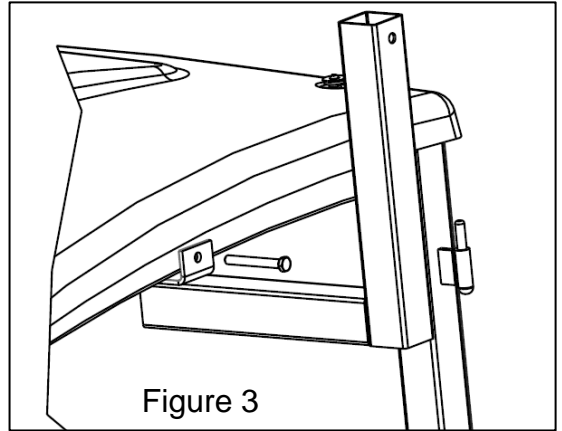

Figure 3
4. Remove (4) socket head screws that secure each seat to vehicle. Lift both seats from vehicle.
11. Remove screws that hold lift valve on center console. (see figure 3)
3. Take cab lift brackets and slide bolt through holes in top of cab. Figure 3